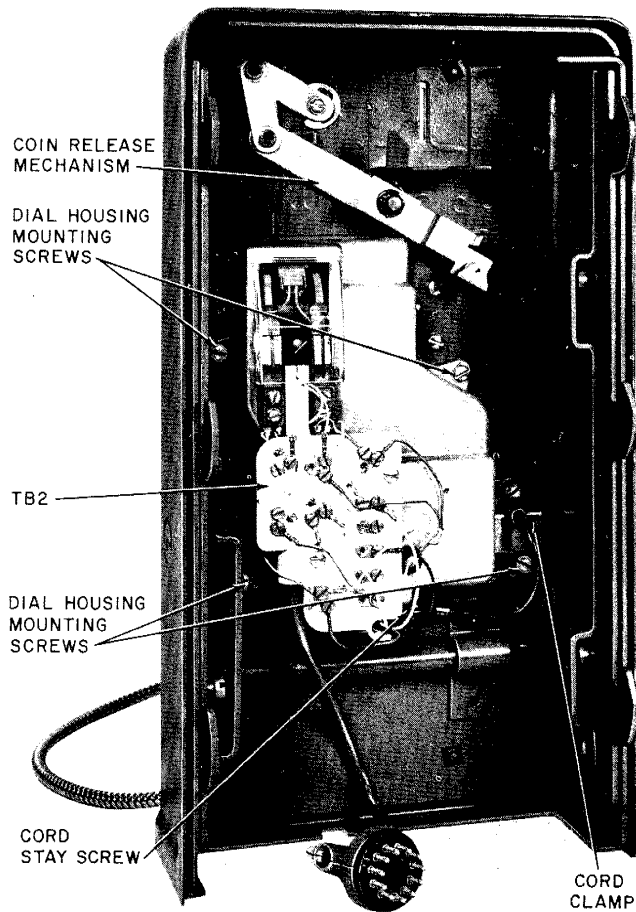

Fig. 19—Cover Unit Assembly (Typical)
- (1) Remove four mounting screws in dial housing (Fig. 19).
- (2) Lift dial housing off.
- (1) Disconnect handset leads from TB2.
- (2) Loosen cord stay screw (Fig. 19).
- (3) Remove screw and cord clamp from armored cord.
- (4) Pull cord out front of cover.